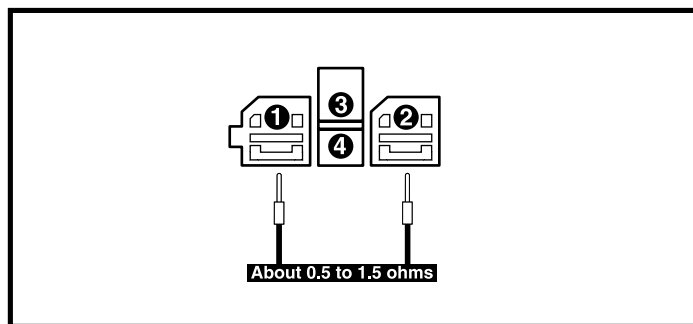
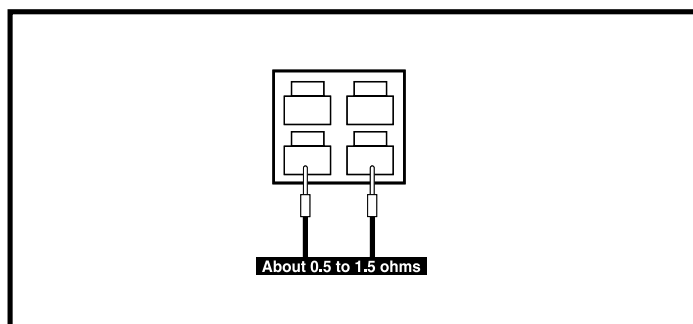
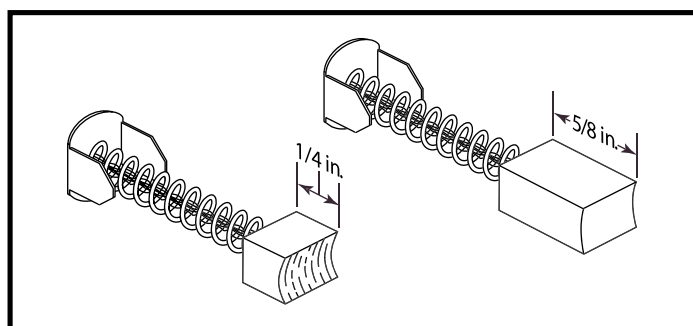

Figure 25. Connector 4b
Figure 26. Connector 13a
Figure 27. Motor Brushes
4. Unplug connector 4b from the power module (6). See diagram 3.
5. Measure resistance across pin 1 and pin 2 on connector 4b. See figure 25.
- If your multimeter indicates about 0.5 to 1.5 ohms, then replace the power module (6) and retest the system.
7. Measure resistance across pin 1 and pin 2 on connector 13a. See figure 26.
- If your multimeter indicates about 0.5 to 1.5 ohms, then replace the right motor interface harness (4) and retest the system.
8. Remove the brushes from the right motor and inspect them. See figure 27.
- If the brushes are not worn below 0.25 in. and are not physically damaged, then replace the right motor (13) and retest the system.